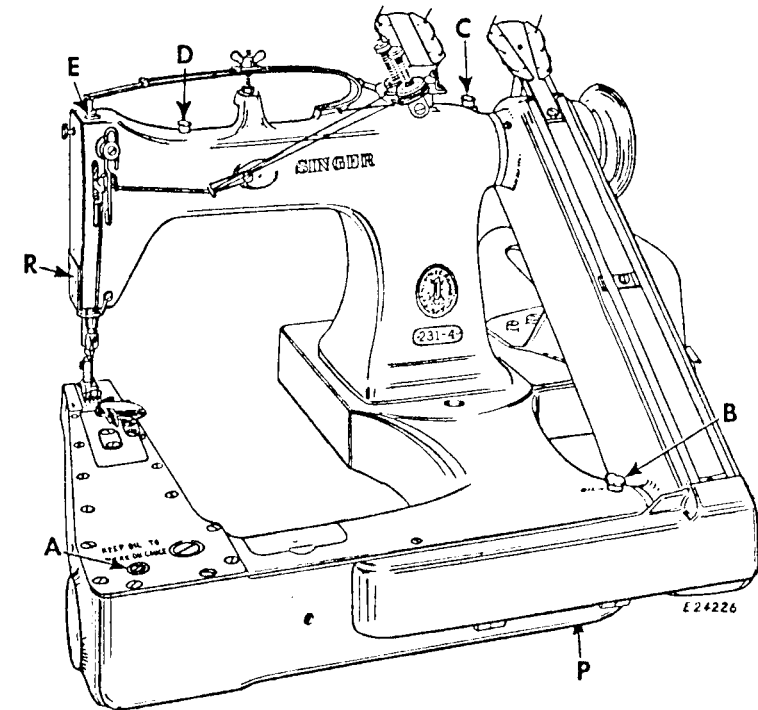
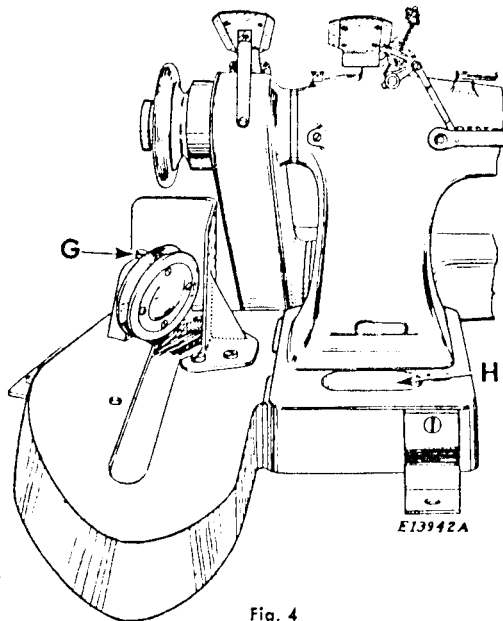

Fig. 2
Fig. 4
1. After it is certain that the machine is set up so that its cylinder arm cover is level, lift out the gauge A, Fig. 2 and fill the arm reservoir to the level of the mark on the gauge. Run the machine a few minutes, then wipe off the gauge and recheck the oil level. THIS RESERVOIR SHOULD BE FILLED ABOUT TWICE A WEEK OR OFTEN ENOUGH TO KEEP THE OIL LEVEL UP TO THE MARK ON THE GAUGE.
3. Place about 5 drops of oil in each of the three cups **B**, **C** and **D**, Fig. 2 which lubricate the ball bearings, and in the cup **G**, Fig. 4 on the idler pulley underneath the machine pulley. DO THIS ABOUT ONCE A WEEK.
**NOTICE:** When the machine has stood idle for some time, put a few drops of oil in the top of the needle bar guide pin **E**, Fig. 2 before starting the machine.
**OIL DRAIN.** Surplus oil from the bearings drains into the wells at the rear of the base **H**, Fig. 4 and behind the lower half of the face plate **R**, Fig. 2, at the head of the arm. These wells should be emptied by soaking out the oil with waste or similar material.